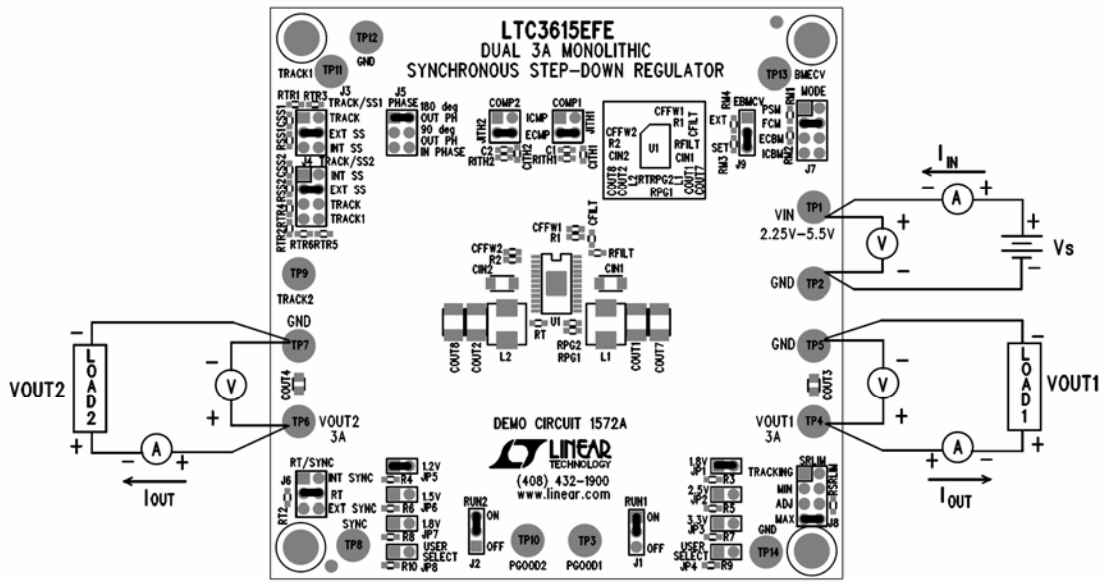

Figure 1. Proper Measurement Equipment Setup
The DC1572 is easy to set up to evaluate the performance of the LTC3615. For a proper measurement equipment configuration, set up the circuit according to the diagram in Fig. 1.
1. Connect the input power supply to the  $V_{in}$  and GND terminals. Connect the loads between the  $V_{out}$  and GND terminals. Refer to figure 1 for the proper measurement equipment setup.